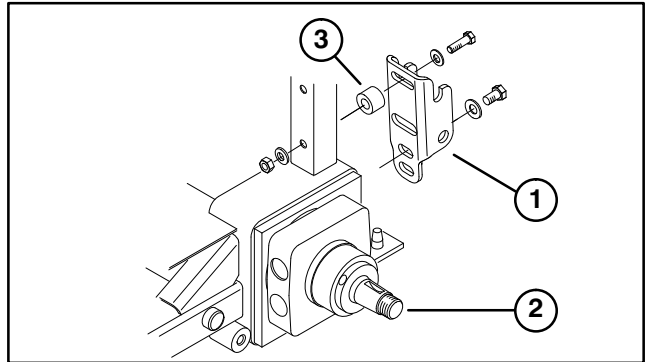

Figure 7
B. On Sand Pro 5000/5020 – Mount top of receiver bracket to frame with a 3/8–16 x 1.25" lg. cap screw, (2) .40 I.D. x .81 O.D. flat washers, .625" lg. spacer and locknut. Mount bottom of receiver bracket to frame with a 1/2–13 x .875" lg. cap screw and (2) .56 I.D. x 1.063 O.D. flat washers. Position components as shown in figure 7.